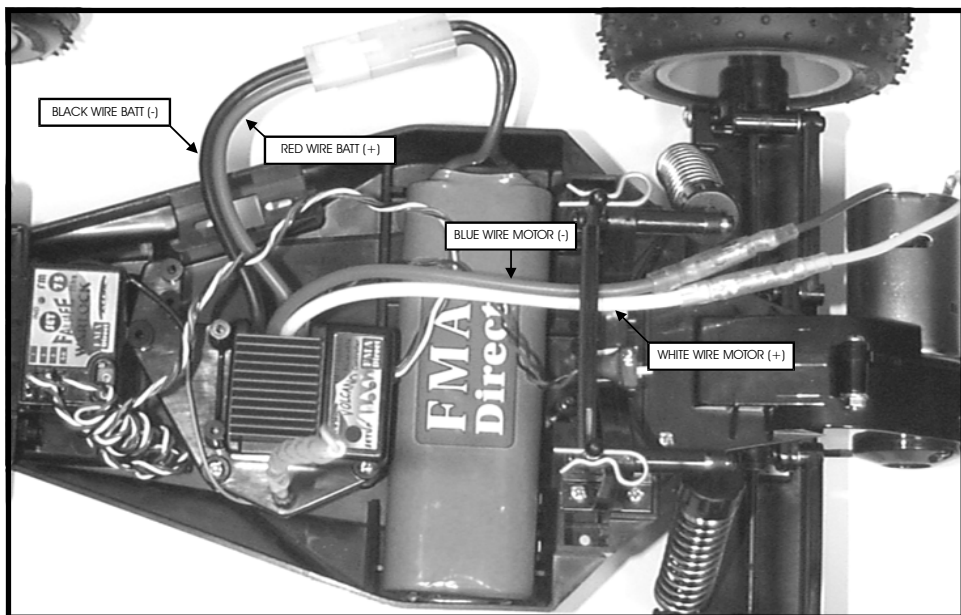

Figure 1 - ESC Installation
Refer to figure 1 when connecting the VOLCANO to your R/C receiver, motor, and battery pack. Please read the following section completely making certain to follow the directions in the proper order before applying power to the unit.
1. Verify that the VOLCANO is mounted in the vehicle as illustrated in Figure 1 and described in the previous section, RECEIVER / MOTOR / BATTERY CONNECTIONS.